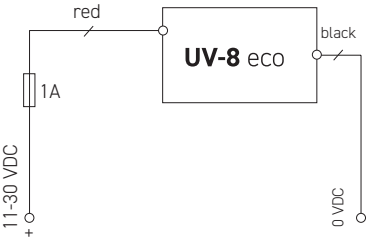

Figure 16: Electrical Connection
4. Always observe the electrical connection diagram (power supply and signal: Figures 16, 17, 18, and 19). Ensure that the cross-section of the supply lines is adequately sized.